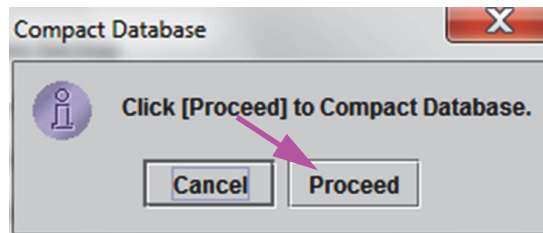

Figure 5-73. Compact Database Confirmation Dialog Box
2. Click **Proceed** on the Database Management window. The Compact Database confirmation dialog box appears. See Figure 5-73.